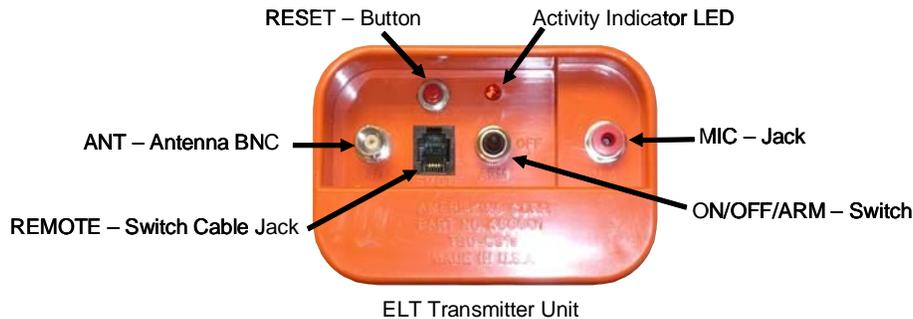

Figure 25-22 ELT RESET Button
3. To reset the ELT, locate the RESET button as shown in Figure 25-22.